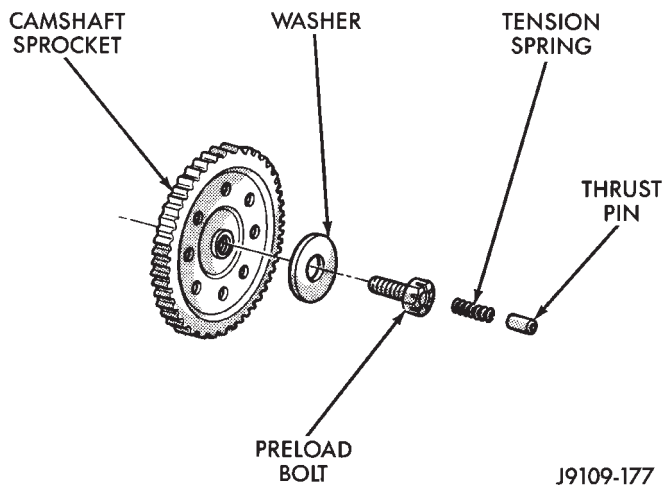
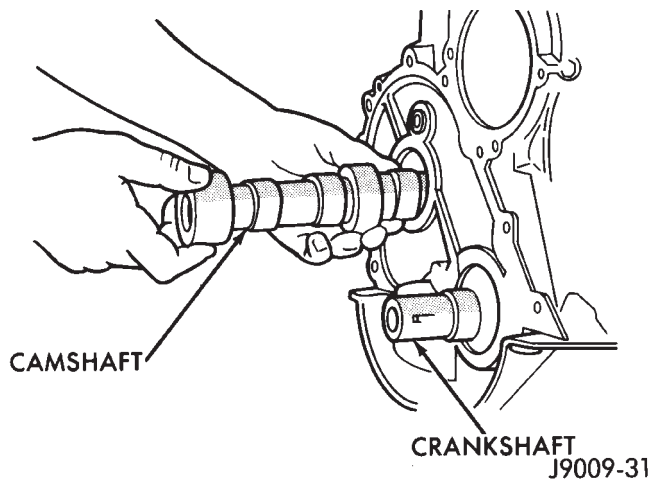
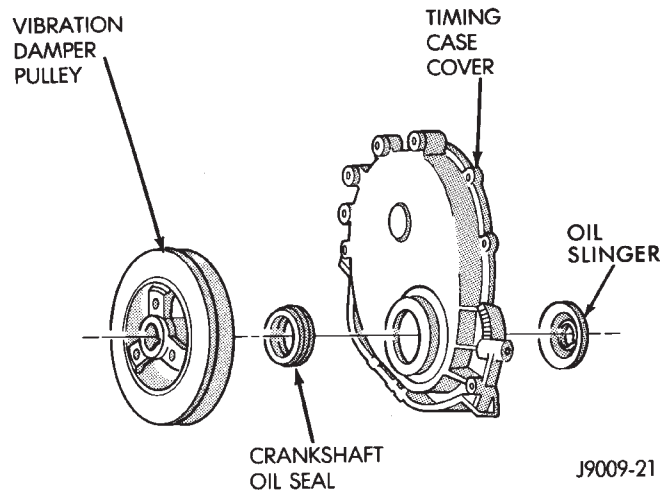

Fig. 6 Camshaft Sprocket Preload Bolt
Fig. 8 Camshaft
Fig. 9 Timing Case Cover Components
- (7) Remove the oil slinger from the crankshaft.
- (8) Remove the tension spring and thrust pin from the preload bolt (Fig. 6). Remove the camshaft sprocket retaining preload bolt and washer.
- (9) Remove the crankshaft sprocket, camshaft sprocket and timing chain as an assembly.
(3) To verify correct installation of the timing chain, turn the crankshaft to position the camshaft sprocket timing mark as shown in Fig. 8. Count the number of chain pins between the timing marks of both sprockets. There must be 15 pins.
(4) Install the crankshaft oil slinger.
(5) Replace the oil seal in the timing case cover.
(6) Lubricate the tension spring, thrust pin and pin bore in the preload bolt with Mopar Engine Oil Supplement, or equivalent. Install the spring and thrust pin in the preload bolt head (Fig. 6).
(7) Install the timing case cover and gasket.
(8) With the key installed in the crankshaft keyway, install the vibration damper, washer and bolt. Lubricate and tighten the bolt to 108 N·m (80 ft. lbs.) torque.
(9) Install the serpentine drive belt and tighten to the specified tension (refer to Group 7, Cooling System for the proper procedure).
(10) Install the fan and hub (or Tempatrol fan) assembly. Install the shroud.
(11) Connect negative cable to battery.
(6) Remove the distributor and ignition wires.
(7) Remove the engine cylinder head cover.
(8) Remove the rocker arms, bridges and pivots.
(9) Remove the push rods.
(10) Remove the engine cylinder head and gasket.
(11) Remove the hydraulic valve tappets from the engine cylinder head.
(12) Remove the vibration damper.
(13) Remove the timing case cover.
(14) Remove the timing chain and sprockets.
(15) Remove the front bumper and/or grille, as required.
(16) Remove the camshaft (Fig. 8).
(1) Lubricate the camshaft with Mopar Engine Oil Supplement, or equivalent.
(2) Carefully install the camshaft to prevent damage to the camshaft bearings (Fig. 8).
(3) Install the timing chain, crankshaft sprocket and camshaft sprocket with the timing marks aligned.
(4) Install the camshaft sprocket retaining preload bolt. Tighten the bolt to 108 N·m (80 ft. lbs.) torque.
(5) Lubricate the tension spring, the thrust pin and the pin bore in the preload bolt with Mopar Engine Oil Supplement, or equivalent. Install the spring and thrust pin in the preload bolt head.
(6) Install the timing case cover with a replacement oil seal (Fig. 9). Refer to Timing Case Cover Installation.
(7) Install the vibration damper (Fig. 9).